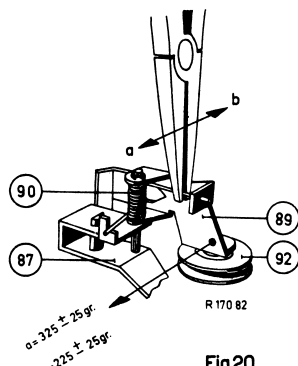

Fig.20
6. The pressure of lever 89 in the direction of the flywheel, measured in the hole in lever 89 close to spindle 91 should be approx. 325 ± 25 g. If required, adjust by bending the long end of spring 90 slightly into the desired direction (see fig. 20).
6. The pressure of lever 89 in the direction of the flywheel must be approx. 225 ± 25 g, measured in the hole in the lever 89 close to spindle 91 (see fig. 20).